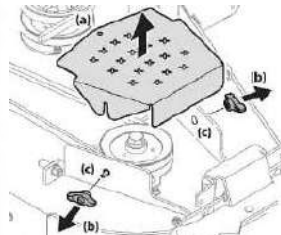

Figure 4-20
3. To remove the belt covers (a), remove the wing knobs (b) from the carriage screws (c) securing it to the deck. See Figure 4-20.
4. The speed nut should hold the carriage screw (c) and tab bolt in place, if not re-install as shown in Figure 4-20.